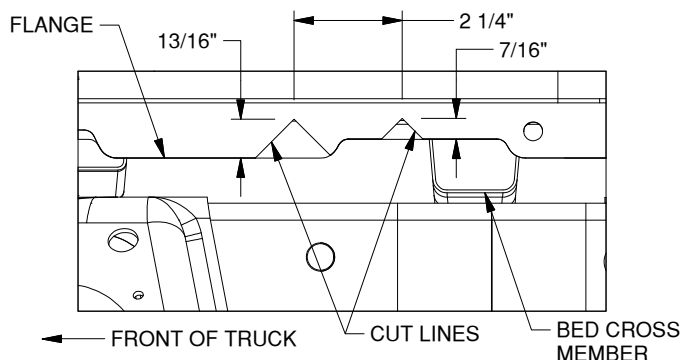

Figure A3: Looking at driver side wheel well.
- 7. Modify bed flange.** Cut two small notches in the bed flange just above the frame in the driver side wheel well, as shown in Figure A3. These notches are required for installing the hitch's rear cross member.